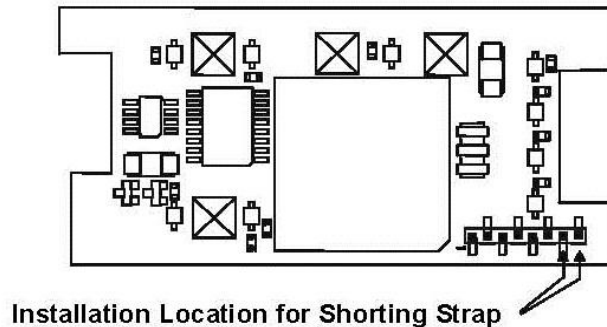

Figure 7, AP033 Logic Board
7. Adjust DC Bal (R36) on the probe tip (Figure 7) to obtain a DMM reading of 0 V  $\pm$ 10 mV.